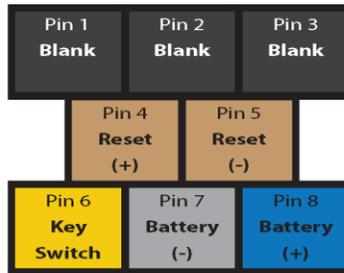

**Figure 1**
**Surface-Mount:** The unit should be mounted securely against a flat surface, using two ¼” fasteners (not provided), to a suitable location as close to the engine as possible. DO NOT mount directly to the engine block. The unit should be mounted, as shown in Figure 1 on page 2, either horizontally or vertically. Horizontal is the optimal mounting orientation considering LED visibility and heat dissipation. However, other mounting orientations are acceptable.